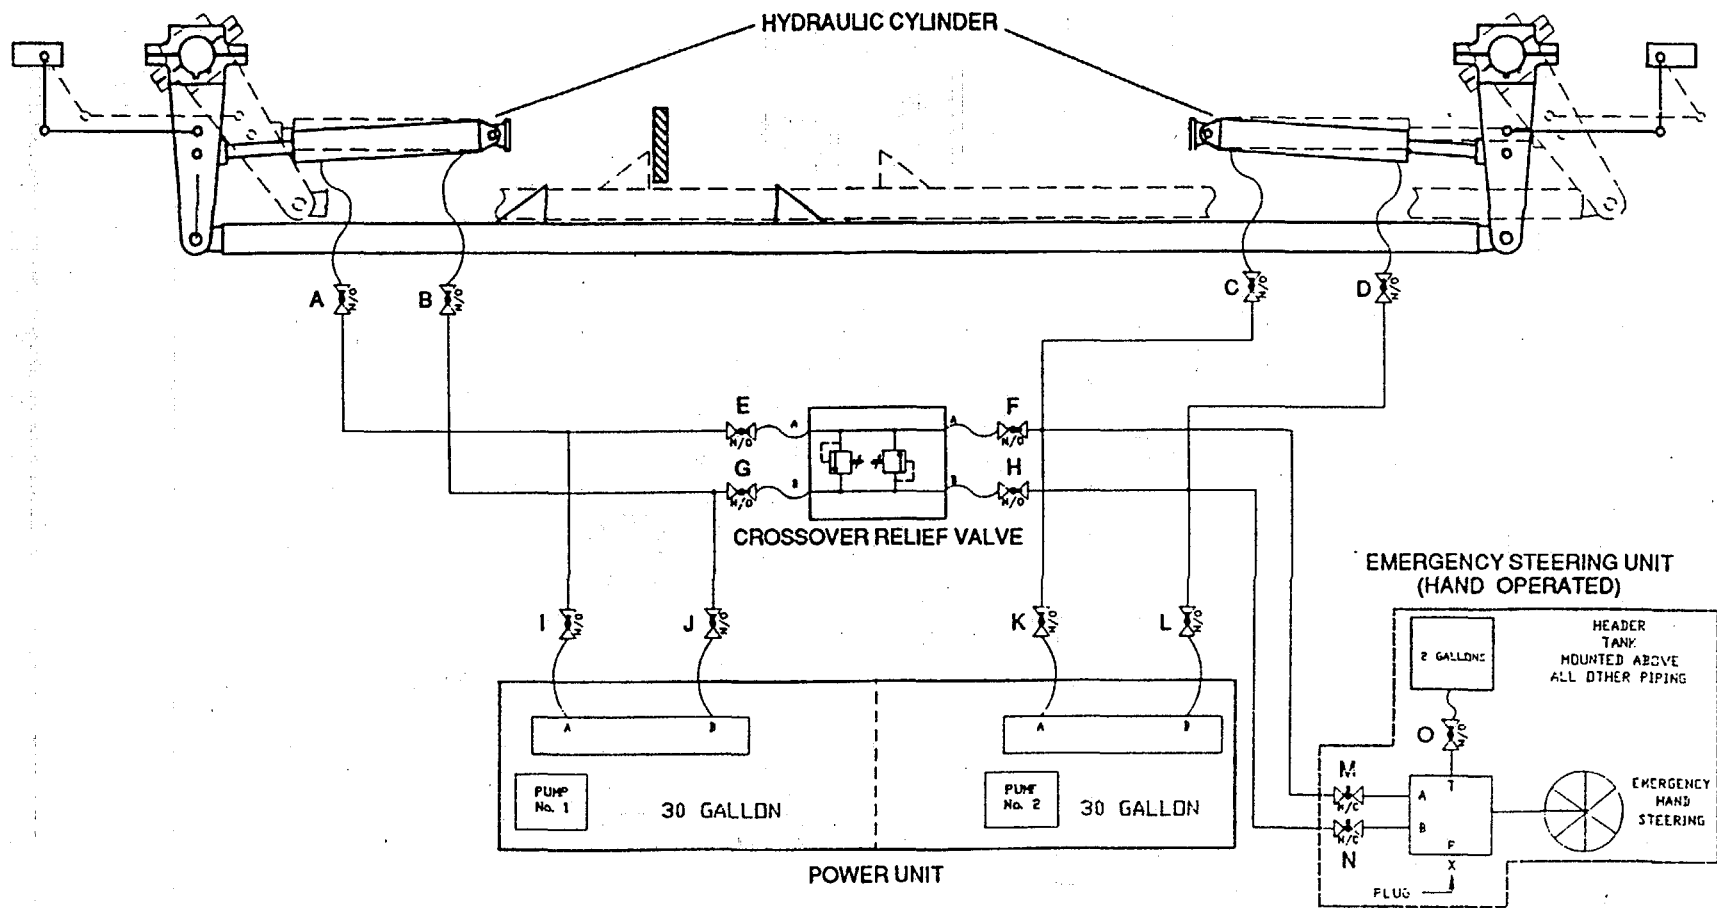
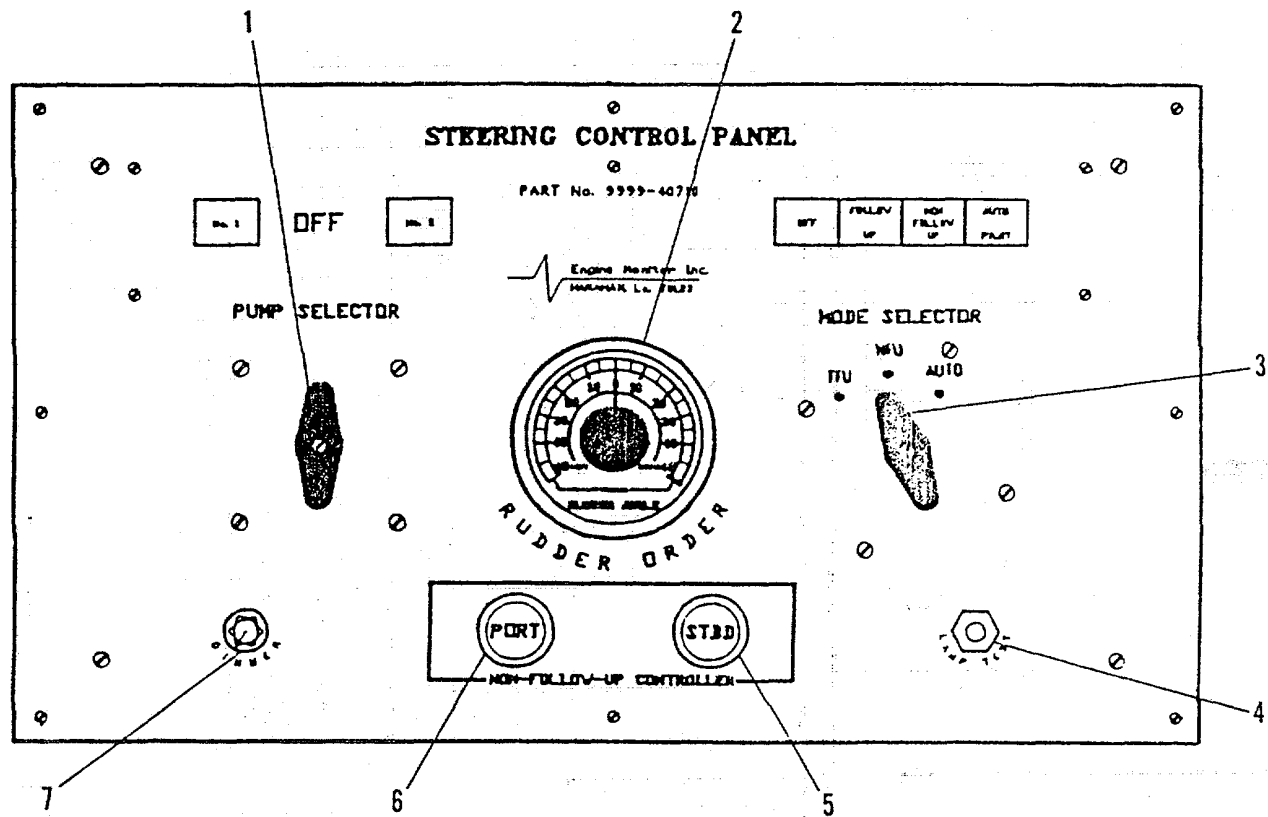
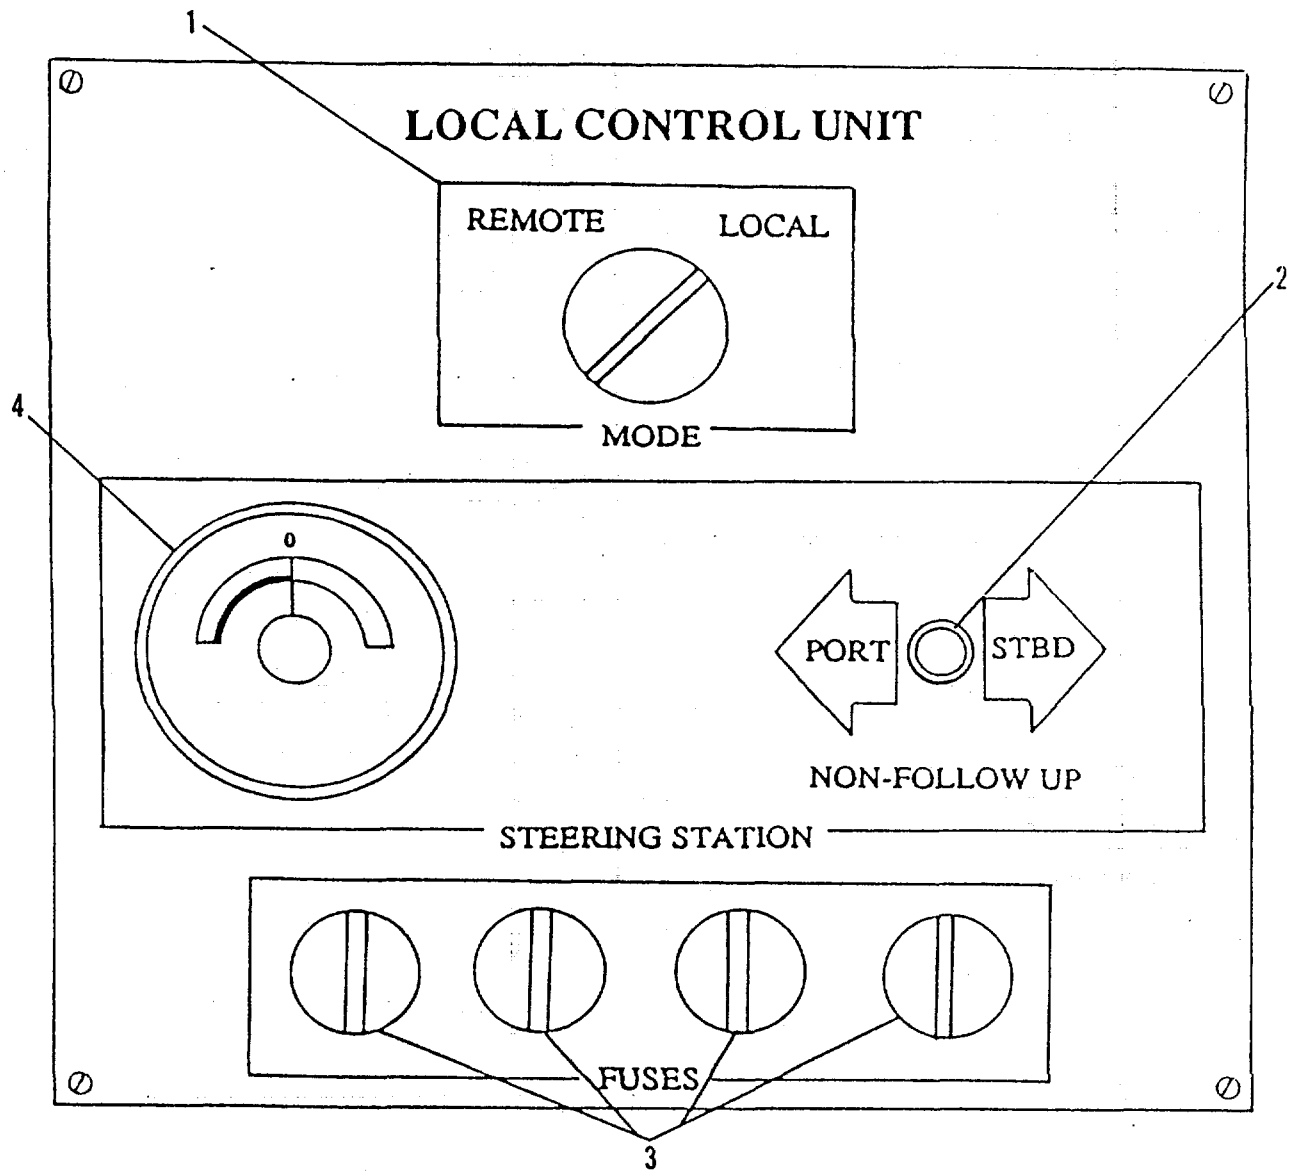

FIGURE 2-149.1. Steering Gear Hydraulic Piping System
FIGURE 2-149.2. Steering Gear Control Panel
FIGURE 2-149.3. Steering Gear Local Control Unit
a. **Steering System Preparation Procedures. Align Steering Gear Hydraulic Piping System (FIGURE 2-149.1) as follows:**
- (1) Close all valves in the steering gear hydraulic steering gear piping system.
- (2) Open valve B, LOCK VLV-PORT STRG RAM.
- (3) Open valve D, LOCK VLV-PORT STRG RAM.
- (4) Open valve C, LOCK VLV-STBD STRG RAM.
- (5) Open valve A, LOCK VLV-STBD STRG RAM.
- (6) Open valve G, UNIT No. 1 ISLN.
- (7) Open valve H, UNIT No. 2 ISLN.
- (8) Open valve E, UNIT No. 1 ISLN.
- (9) Open valve F, UNIT No. 2 ISLN.
- (10) Open valve I, Pump Unit No. 1.
- (11) Open valve J, Pump Unit No. 1.
- (12) Open valve K, Pump Unit No. 2.
- (13) Open valve L, Pump Unit No. 2.
- (14) Ensure that the STEERING CONTROL PANEL (FIGURE 2-149.2), located in the pilot house, "MODE SELECT SWITCH" (3) is in the "OFF" position.
- (15) Ensure that the STEERING ROOM LOCAL CONTROL UNIT (FIGURE 2-149.3) , located in the steering compartment, "MODE SELECT SWITCH" (1) is in the "REMOTE" position on each panel.
- (1) On the STEERING GEAR CONTROL PANEL (FIGURE 2-149.2) press the "LAMP TEST PUSHBUTTON" (4) and ensure that all lamps light.
- (2) On the STEERING GEAR CONTROL PANEL (FIGURE 2-149.2) adjust the "DIMMER CONTROL SWITCH" (7) for best reading level.
- (3) On the STEERING GEAR CONTROL PANEL (FIGURE 2-149.2) set the "PUMP SELECTOR SWITCH" (2) TO THE "pump No. 1" position.
- (4) On the STEERING GEAR CONTROL PANEL (FIGURE 2-149.2) set the "MODE SELECTOR SWITCH" to the "NON-FOLLOW-UP" position.
- (5) Observe rudder operation as follows:
- (a) On the STEERING GEAR CONTROL PANEL (FIGURE 2-149.2) press the "port non- follow-up controller pushbutton" (6), rudder will move to port as shown on the RUDDER ANGLE INDICATOR.
- (b) On the STEERING GEAR CONTROL PANEL (FIGURE 2-149.2) press the "STBD NON- FOLLOW-UP CONTROLLER PUSHBUTTON" (5), rudder will move to starboard as shown on the RUDDER ANGLE INDICATOR.
- (c) On the STEERING GEAR CONTROL PANEL (FIGURE 2-149.2) set the "MODE SELECT SWITCH" (3) to the "FOLLOW UP" position.
- (d) Turn the helm counter-clockwise and the rudder will move to port as shown on the RUDDER ANGLE INDICATOR, and on the "RUDDER ORDER INDICATOR" (2).
- (e) Turn the helm clockwise and the rudder will move to starboard as shown on the RUDDER ANGLE INDICATOR, and on the "RUDDER ORDER INDICATOR" (2).
- (f) Direct the operator in the steering compartment to set the STEERING GEAR LOCAL CONTROL UNIT (FIGURE 2-149.3) "MODE SELECT SWITCH" (1) to the "LOCAL" position, and then perform the following:
- 1) Set the "NON-FOLLOW-UP TOGGLE SWITCH" (2) to the "PORT" position, the rudder will move to port as indicated on the "RUDDER ANGLE INDICATOR" (4).
- 2) Set the "NON-FOLLOW-UP TOGGLE SWITCH" (2) to the "STBD" position, the rudder will move to starboard as indicated on the "RUDDER ANGLE INDICATOR" (4).
- 3) Set the "MODE SELECT SWITCH" (1) to the "REMOTE" position.